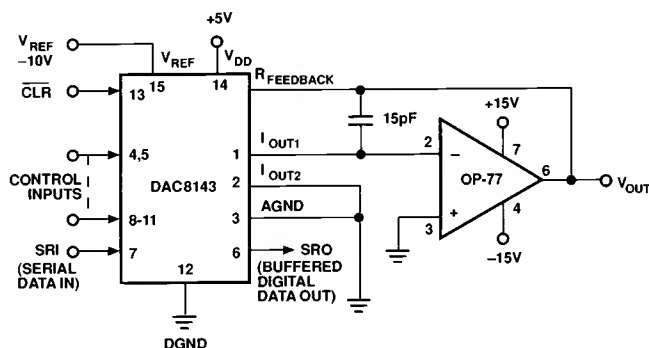

Figure 7. Unipolar Operation with High Accuracy Op Amp (2-Quadrant)
1. Phase compensation (see Figures 7 and 8).
The circuit shown in Figures 7 and 8 may be used with an ac or dc reference voltage. The circuit's output will range between 0 V and  $+10(4095/4096)$  V depending upon the digital input code. The relationship between the digital input and the analog output is shown in Table II. The  $V_{REF}$  voltage range is the maximum input voltage range of the op amp or  $\pm 25$  V, whichever is lowest.
Digital Input	Nominal Analog Output ( $V_{OUT}$ as shown in Figures 7 and 8)
1Nominal full scale for the circuits of Figures 7 and 8 is given by
2Nominal LSB magnitude for the circuits of Figures 7 and 8 is given by
The transfer function for the DAC8143 connect in the multiplying mode as shown in Figures 7 and 8 is:
In most applications, linearity depends upon the potential of  $I_{OUT1}$ ,  $I_{OUT2}$ , and AGND (Pins 1, 2 and 3) being exactly equal to each other. In most applications, the DAC is connected to an external op amp with its noninverting input tied to ground (see Figures 7 and 8). The amplifier selected should have a low input bias current and low drift over temperature. The amplifier's input offset voltage should be nulled to less than  $\pm 200 \mu V$  (less than 10% of 1 LSB).